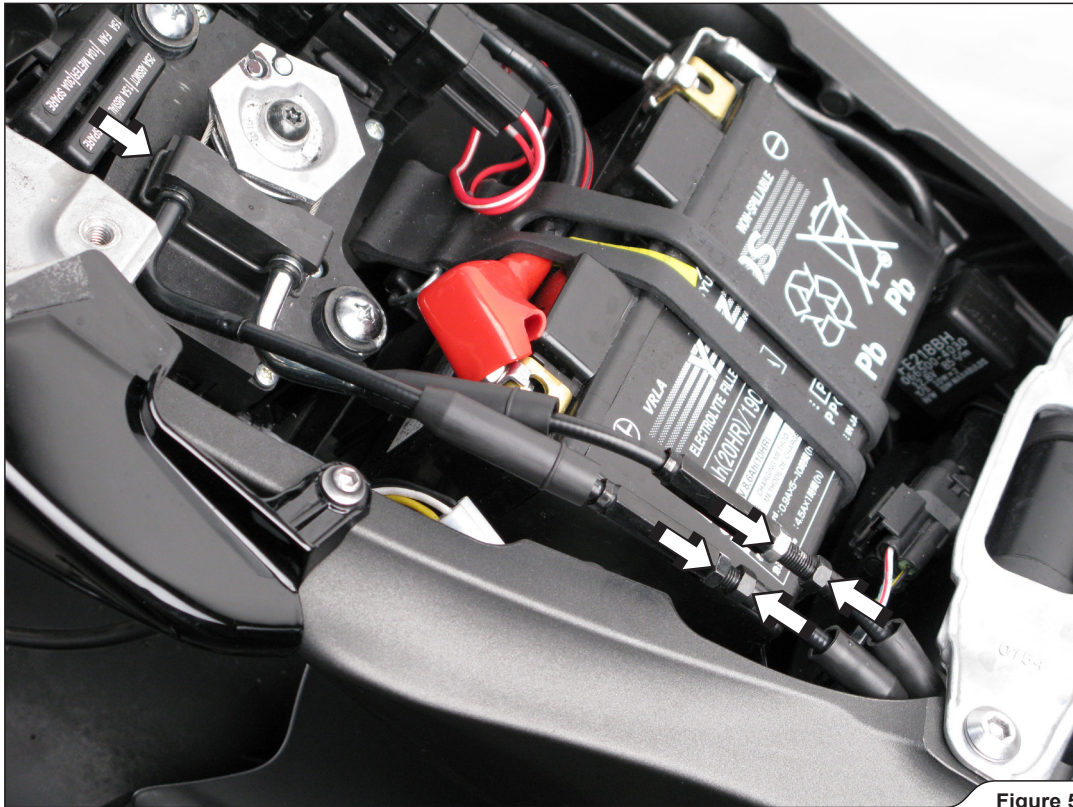

Figure 5
5. Shorten the cable adjusters, remove the safety pin and cables off the servo motor (Figure 5).